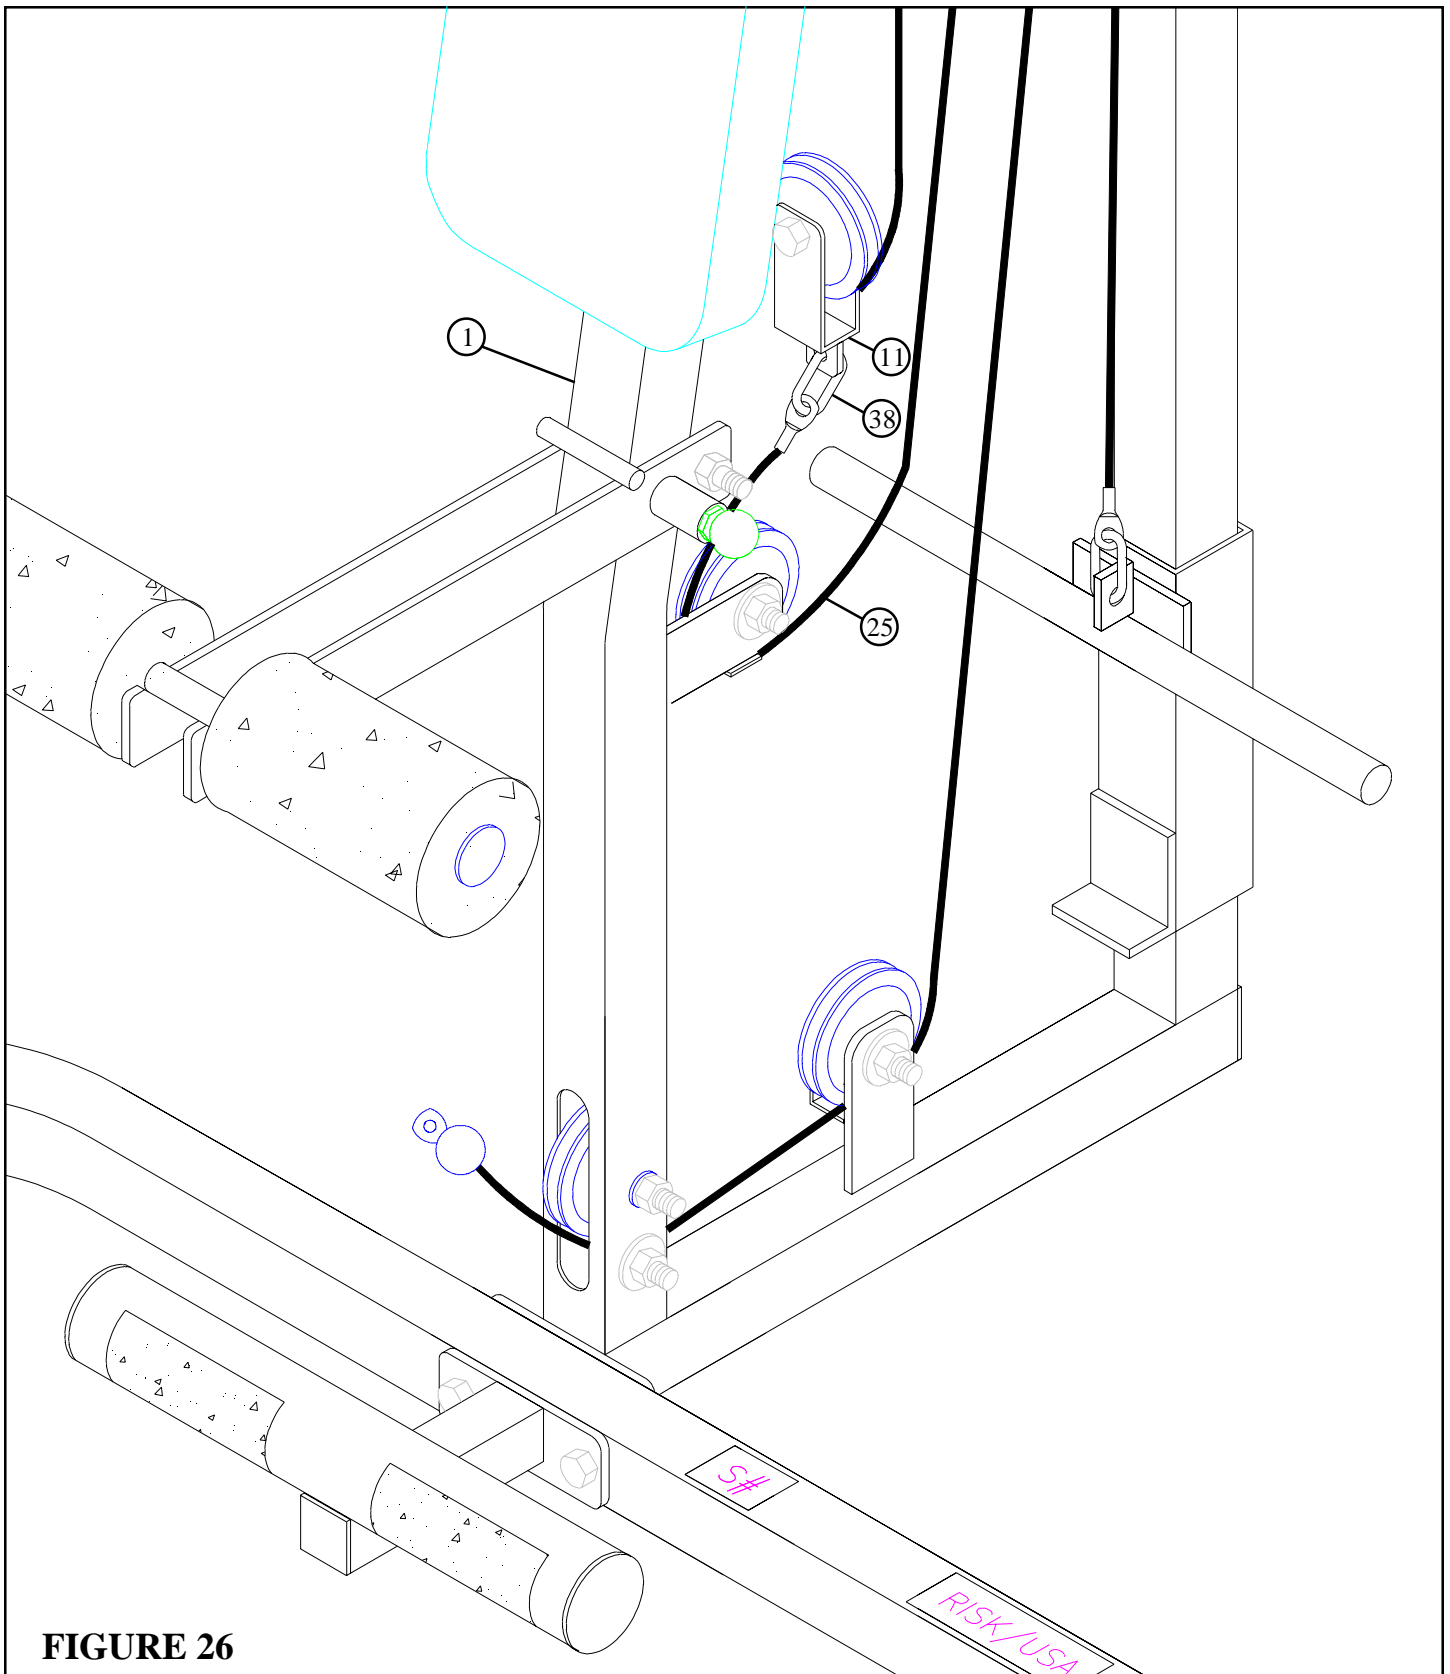

**FIGURE 25**
- Loop the CABLE (25) around one 3-1/2" PULLEY (23) and **LOOSELY** assemble PULLEY to the 1-3/4 X 5-1/4" PLATES (17) using one 3/8 X 2" BOLT (29) and one 3/8" LOCK NUT (36). See FIGURE 25.